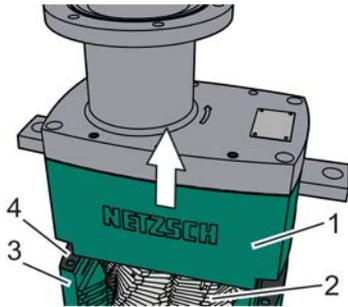

Fig. 71: Lifting out the cutter block drive unit
Carefully lift up the cutter block drive unit (Fig. 71/1) from the machine housing (Fig. 71/3) vertically in the upward direction. When doing so, ensure that the cutter blocks (Fig. 71/2) do not get caught.
6. **➔** Remove the flat seals (Fig. 71/4) from the machine housing (Fig. 71/3) and place to the side.